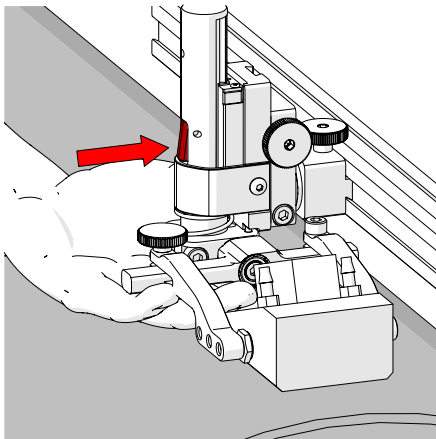
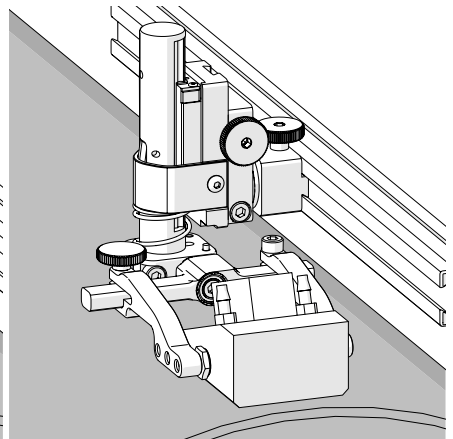

Fig. 67 - Press latch button
Fig. 68 - Lower toward scan surface
4. Lift the yoke slightly and press the latch button (Fig. 67), then slowly lower towards scanning surface to apply spring pressure to the wedge (Fig. 68).